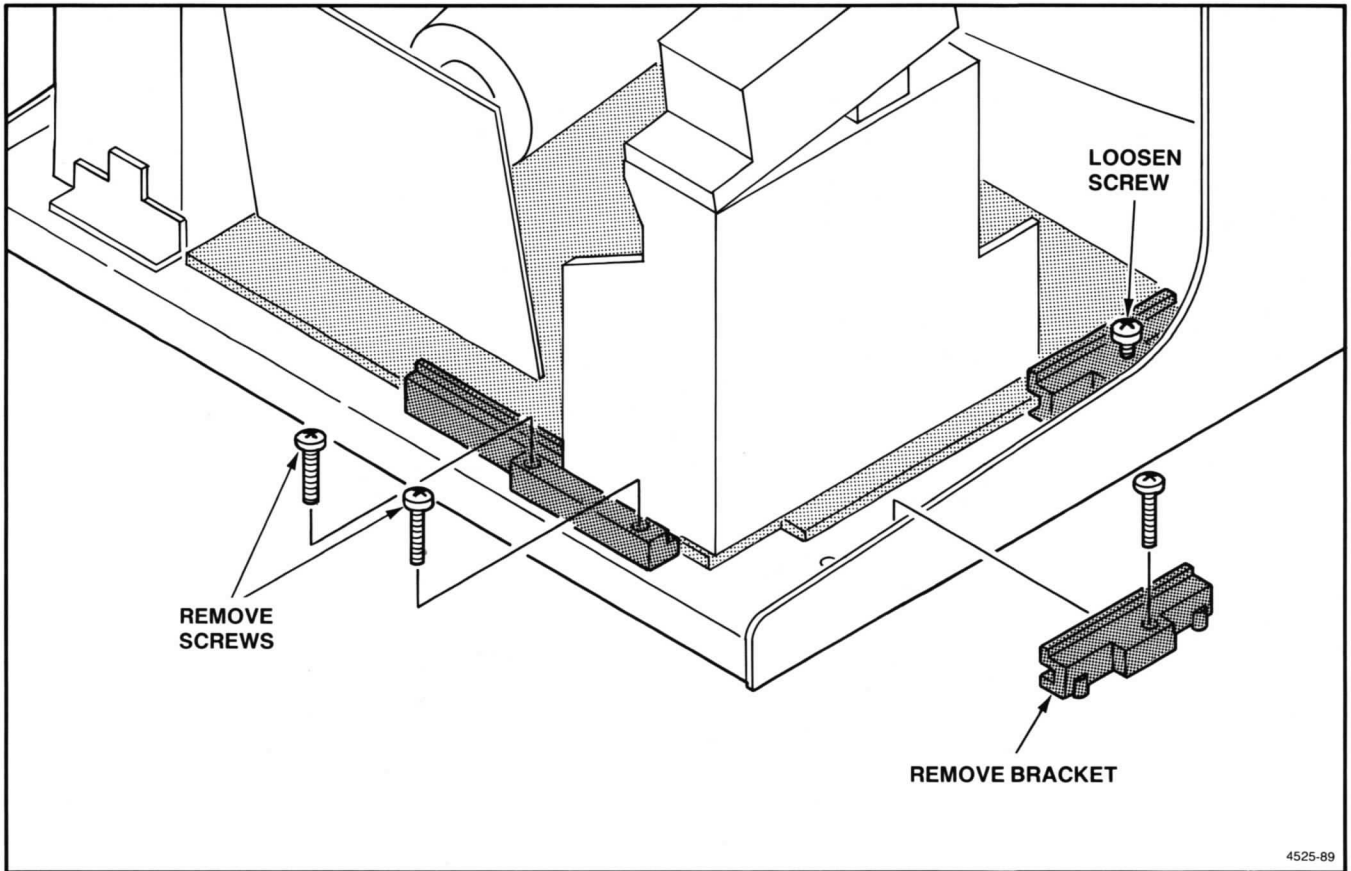

Figure 6-13. Loosening/Removing Brackets from the Main Video Board.
4. The Main Video board is attached to the chassis by four grooved brackets. See Figure 6-13. Unscrew the two screws from the rear bracket and remove it from the back-end of the circuit board. Also, remove the left-rear bracket² from the side of the board.